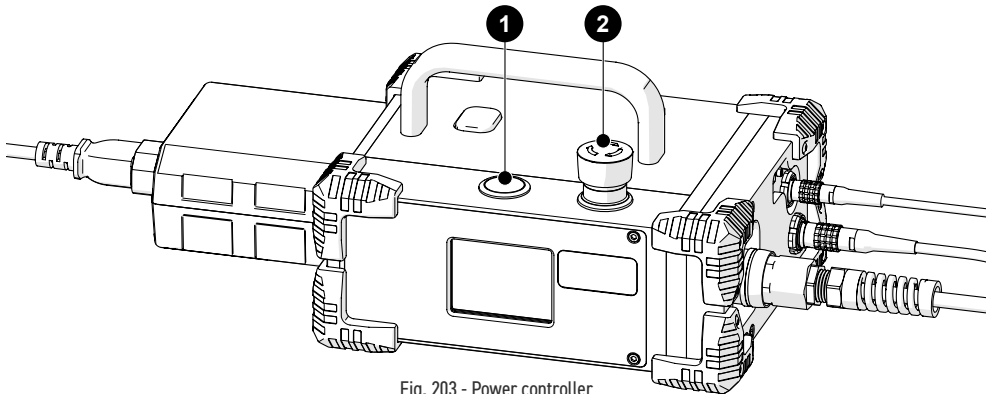

Fig. 203 - Power controller
3. Locate the **2** red emergency stop push button on the power controller. Rotate this button clockwise to unlatch (Fig. 203).
4. The **1** power button (Fig. 203) on the power controller activates the system.